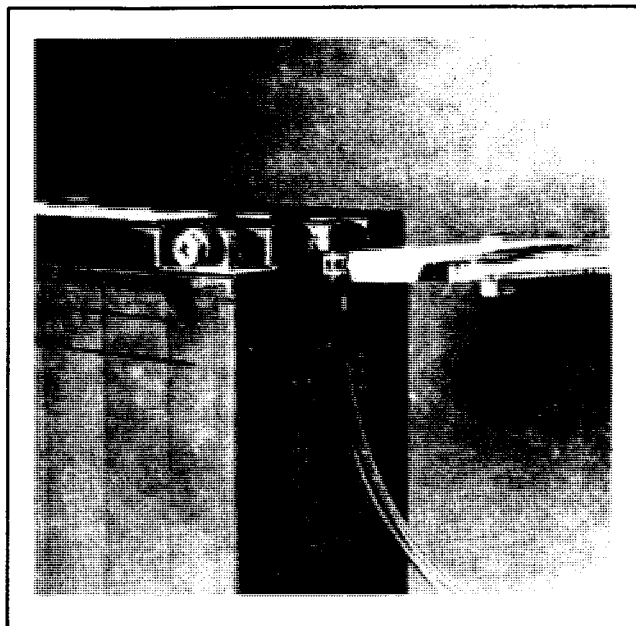

Figure 1. Hose Clamp Installation
4. See Figure 1. With an ordinary pair of wide jaw pliers, squeeze tangs of clamp to expand clamp opening. Slip clamp over end of hose so that hose end extends about 1-1/2 inch.